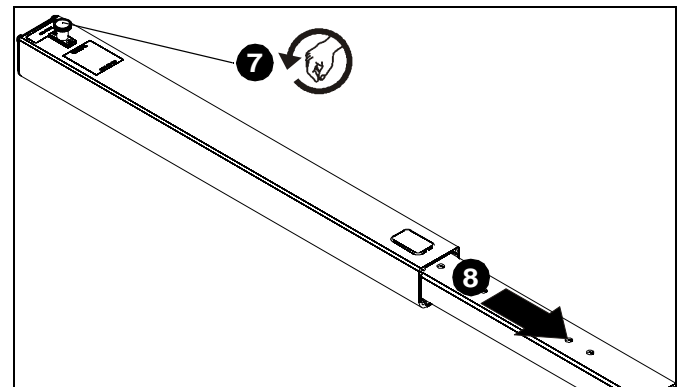

Figure 3
7. Turn knob on back of column to release inner column from outer column. (See Figure 3)
8. Pull inner column down through outer column until cart knob is accessible on the inside. (See Figure 3)